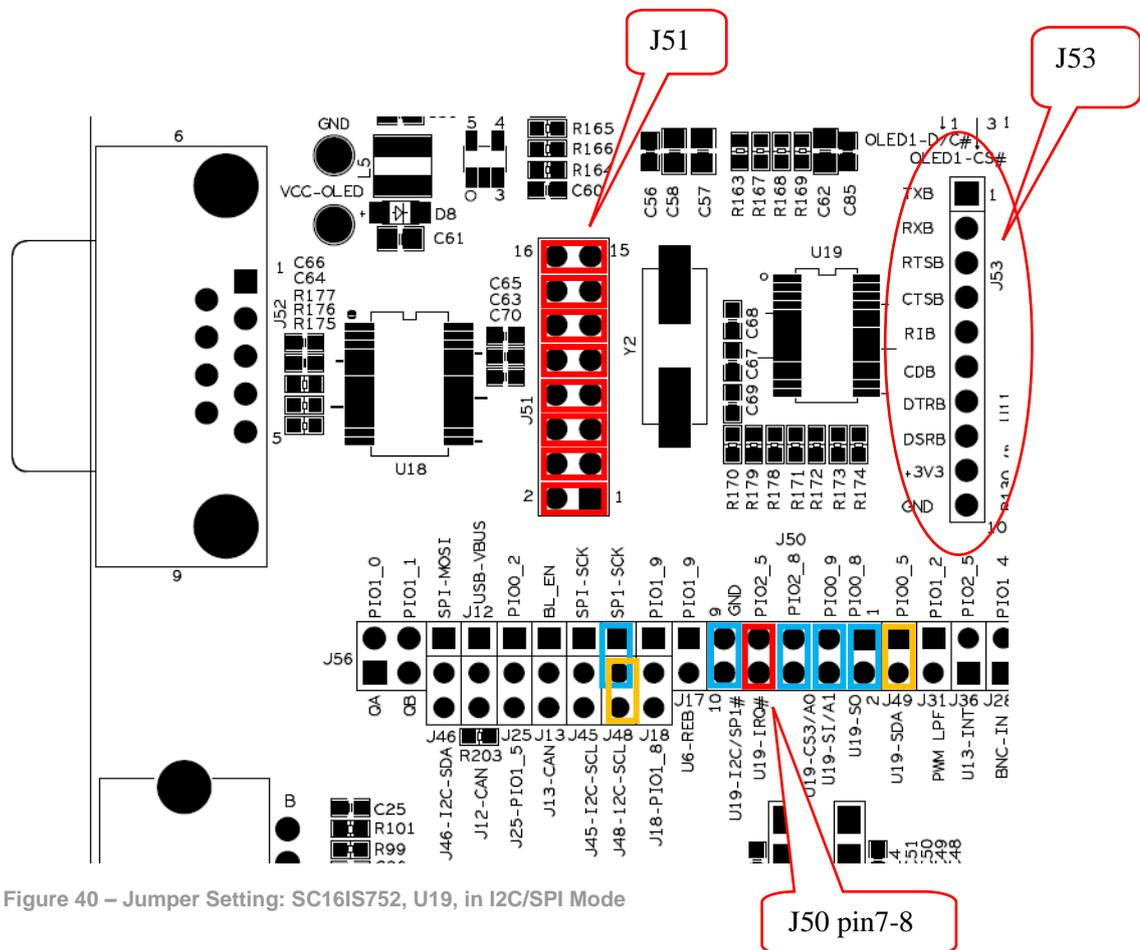

Figure 40 – Jumper Setting: SC16IS752, U19, in I2C/SPI Mode
- For I2C interface (default), insert jumpers in J48 pin 2-3, J49 (schematic page 10), as illustrated in Figure 40. Note that I2C mode is illustrated by yellow jumpers.
- For SPI interface, insert jumpers in J48 pin1-2 and J50 (schematic page 10), as illustrated in Figure 40. Note that SPI mode is illustrated by blue jumpers.
Note that J50 pin 7-8 is optional. It is the interrupt signal from the dual uart (U19) that can optionally be connected to PIO2_5. If that is wanted, insert a jumper in J50 pin 7-8. See Figure 40 for details.
Insert all jumpers in J51 (schematic page 10) in order to connect uart channel A to the RS232 interface (U18 and J52). See Figure 40 for details.